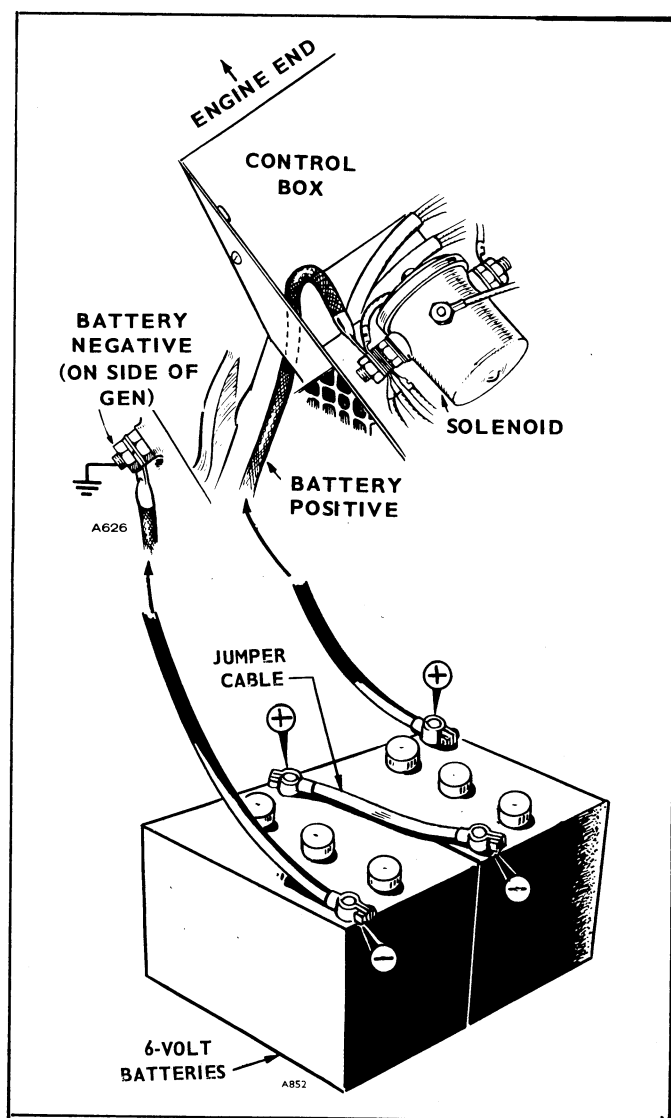

FIGURE 9. 12 VOLT BATTERY CONNECTION
**12 Volt System:** Refer to the wiring diagram and Figure 9. If battery ground must be changed to agree with other equipment aboard a vessel, reverse the connections to the charge ammeter or remark the correct direction of charge.